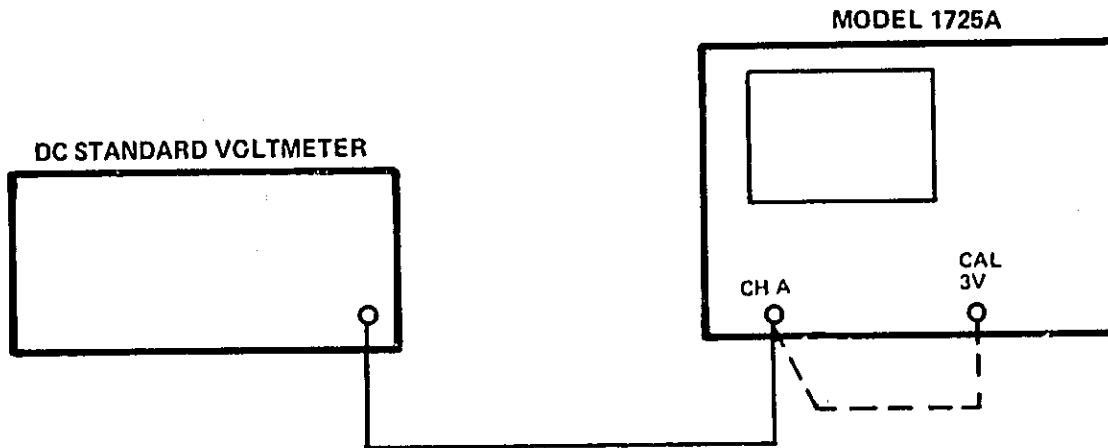

Figure 5-2. Calibrator Accuracy Test Setup
- a. Connect equipment as shown in figure 5-2.